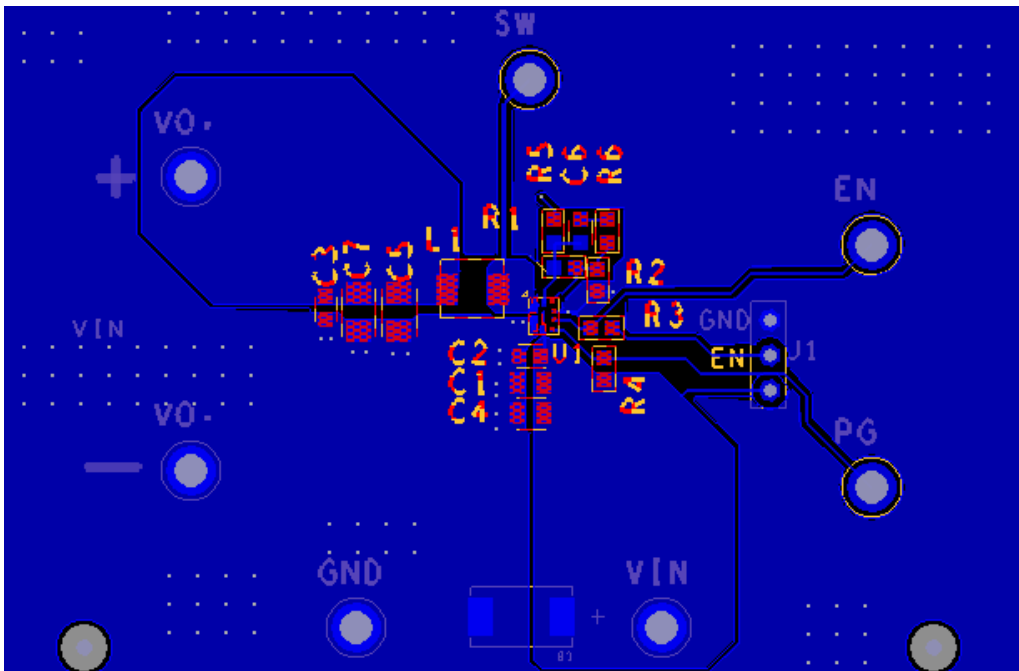

Figure 58. Printed Circuit Board Example Component Placement
Proper layout of the power converter minimizes EMI and noise and insure first pass success of the design. PCB layouts are provided in multiple formats on the Renesas web site. In addition, Figure 58 makes clear the important points in PCB layout. In reality, PCB layout of the RAA808015A/B is quite simple.
- A multi-layer printed circuit board with GND plane is recommended. Figure 58 shows the connections of the critical components in the converter. *Note:* Capacitors on the input and output can each represent multiple physical capacitors. The most critical connections are to tie the PGND pin to the package GND pad. This connection of the GND pad to GND plane insures a low-impedance path for all return current, and an excellent thermal path to dissipate heat. With this connection made, place the high-frequency MLCC input capacitor near the VIN pin and use vias directly at the capacitor pad to tie the capacitor to the GND plane.
An example component placement is shown in Figure 58